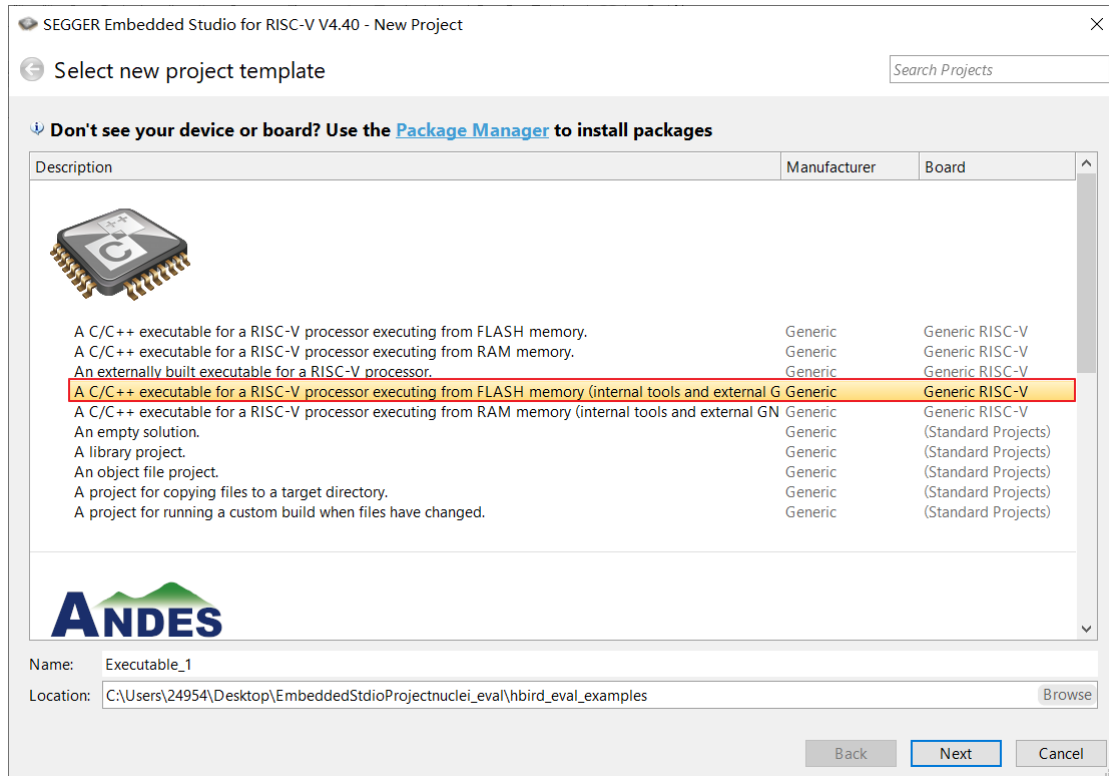
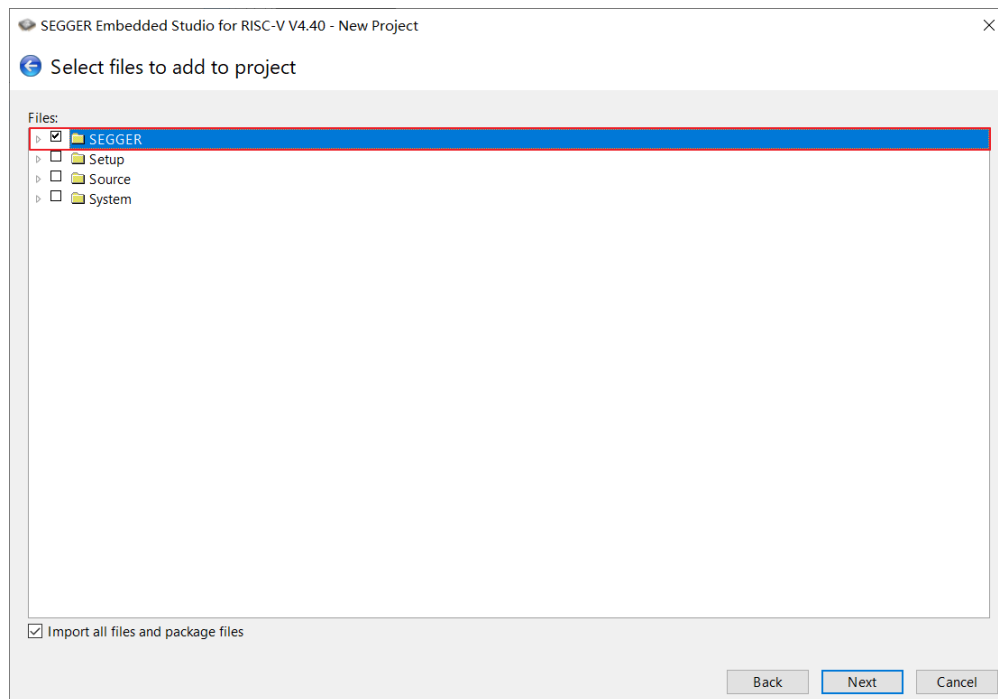

Figure 4-13 Create an External GNU Using Project
Figure 4-14 Adding SEGGER Folder
- Create an “external GNU using project” as shown in Figure 4-13. And when adding a default folder, select the SEGGER folder, as shown in Figure 4-14.